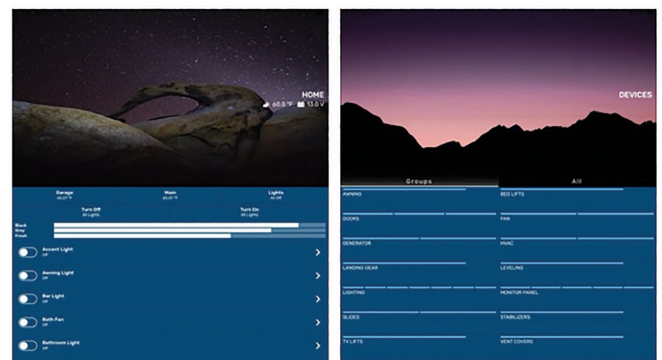

Fig.15
2. Download and install the LCI OneControl app (**Fig.15**) from either Apple's App Store (iOS) or Google Play (Android). Connect to the secured Wi-Fi network as follows: